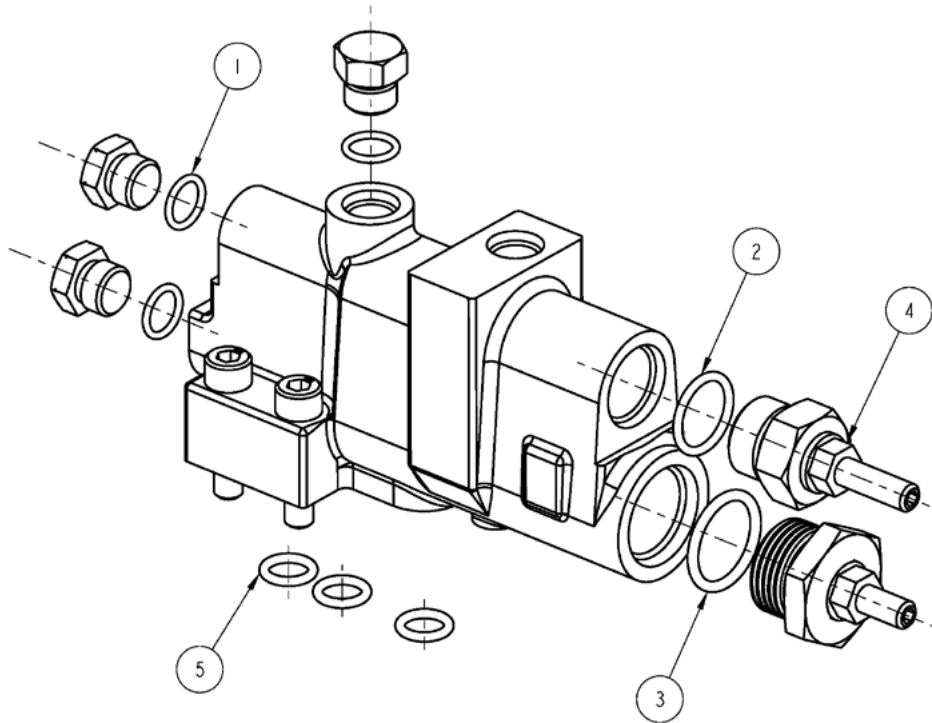

Figure 28
1. Remove the four screws (Figure 28, ②78) that fix the compensator housing to the end cover.
2. Remove the compensator and take out the three O-rings (Figure 28, ③85).
10. Install three O-rings (Figure 28, ③85).
11. Use four screws (Figure 28, ③85) to fasten the compensator housing to the end cover. Tighten the screws with a torque of 31-37 Nm. When tightening, do it in a crisscross pattern and retighten the first screw.